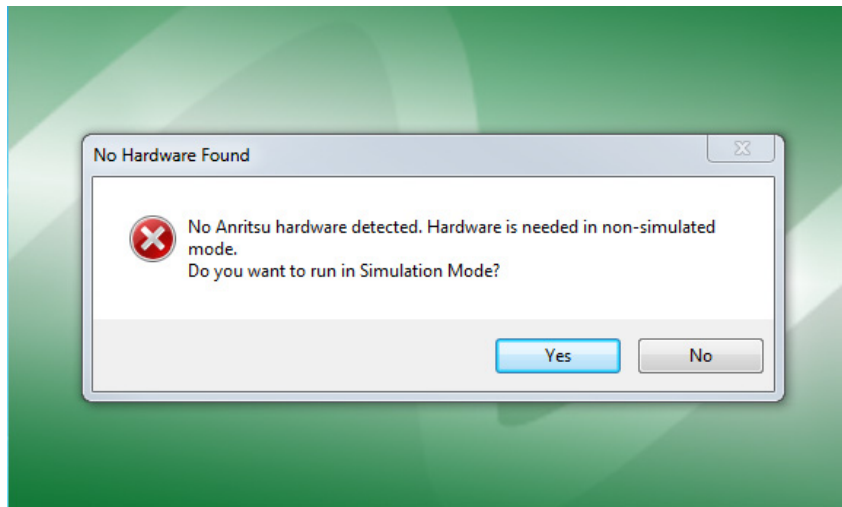

Figure 3-5. ShockLine GUI Initialization Screen
2. From the No Hardware Found dialog box, Figure 3-5, select yes to run in Simulation Mode.